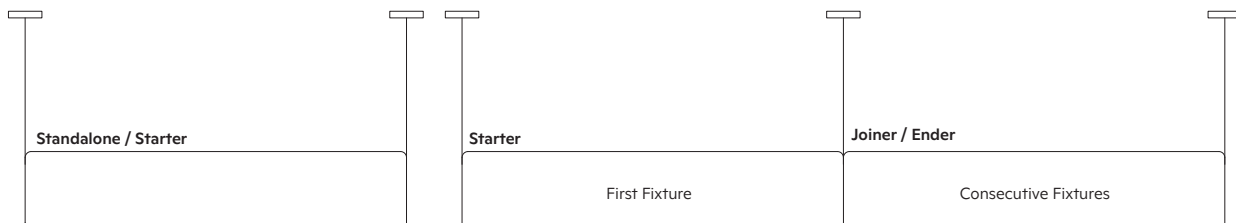

fig. 7
1. Position the suspension mount(s) per the drop locations at the ceiling. See suspension mounts diagram (see fig. 7).